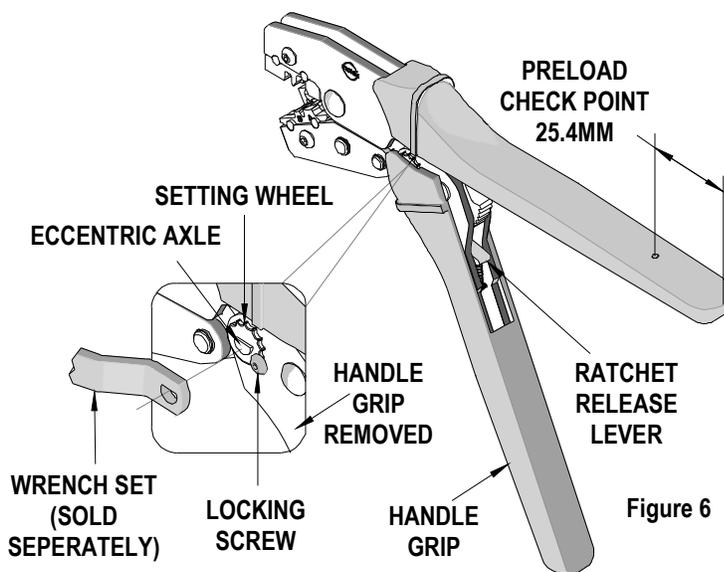

Figure 6
3. Make certain all pins; pivot points and bearing surfaces are protected with a thin coat of high quality machine oil. Do not oil excessively. The tool was engineered for durability but like any fine piece of equipment it needs cleaning and lubrication for a maximum service life of trouble free crimping. Use light oil, such as 30 weight automotive oil, at the oil points. Every 5,000 crimps, or 3 months, to significantly enhance the tool life. See Figure 6.
Should this tool ever become stuck or jammed in a partially closed position, **Do Not force the handles open or closed**. The tool will open easily by pressing the ratchet release lever. See Figure 6.
## How to Adjust Tool Preload (See Figure 6)